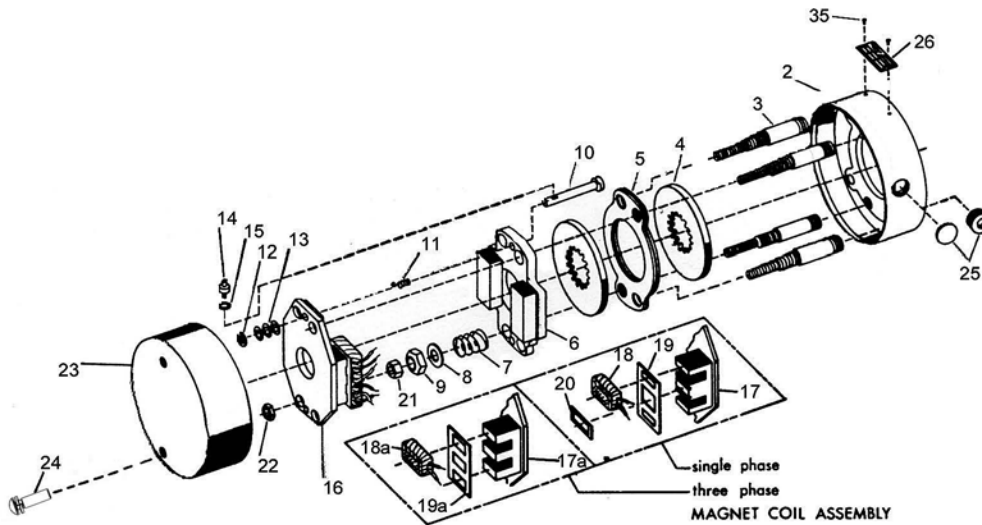

Figure 3. Exploded View of Brake
(See Figures 3, & 5, Tables 2 & 3)
2. Remove cover screws (24) and cover (23).
4. Bolt brake to motor "C" face with four socket head cap screws. See Figure 3 to determine bolt length.
(See Figures 3 & 5)
(See Figures 3 & 5, Table 2)
(See Figure 3)
When assembling a standard manual release mechanism (Figure 3), add only enough shim washers (13) to obtain proper release action. Too many shim washers will prevent automatic reset when electrical power is applied. Too few washers will prevent the motor shaft from turning freely. Replace stop screws (14). Wind each torsion spring (11) approximately 1/4 turn and hook spring loop over pin.
(See Figures 3 & 4)